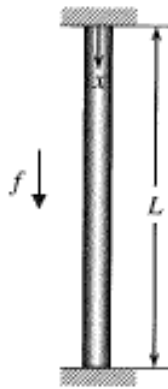

Figure P6.8
8. A vertical rod shown in **Figure P6.8** of elastic material is fixed at both ends with constant cross-sectional area A , Young's modulus E , and height of L under the distributed load f per unit length. The vertical deflection $u(x)$ of the rod is governed by the following differential equation